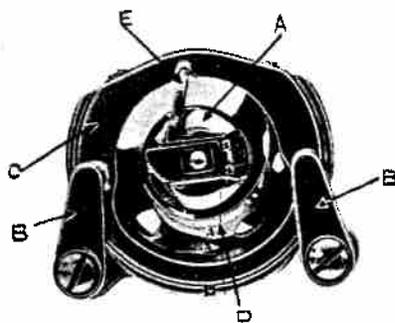

Fig. 47
CLEANING AND OILING THE SHUTTLE (See Fig. 47 and 48)
2. Remove bobbin case (A , Fig. 47).
3. Turn the two shuttle race cover clamps (B) outward and remove the shuttle race cover (C) and shuttle body (D).